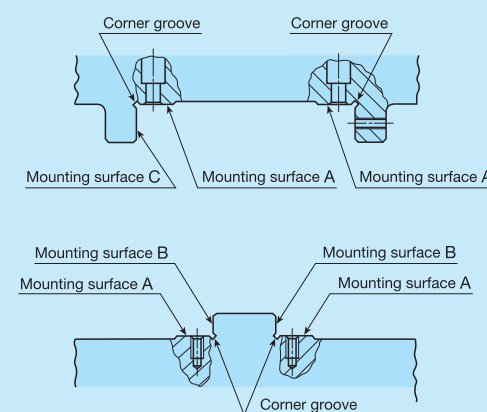

Fig. 27 Mounting surface
- While making the way sticking to B surface (refer to Fig. 27) tight, fully tighten the screws to the specified torque.